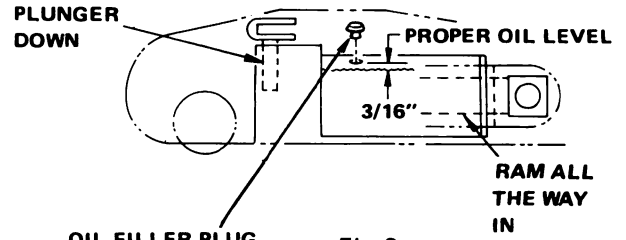

Fig. 2
*Adding Oil:* With Saddle fully lowered & jack on level ground, remove Filler Plug (See Fig. 2). Oil level should be approx. 3/16" below plug hole. If low, add oil as needed.